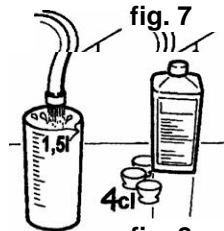

fig. 8
7. Fill cream container with 1,5 l warm water (max 50°C (120°F)) and add 40 ml SANO-DESINFEKT-Plus. (fig. 8)